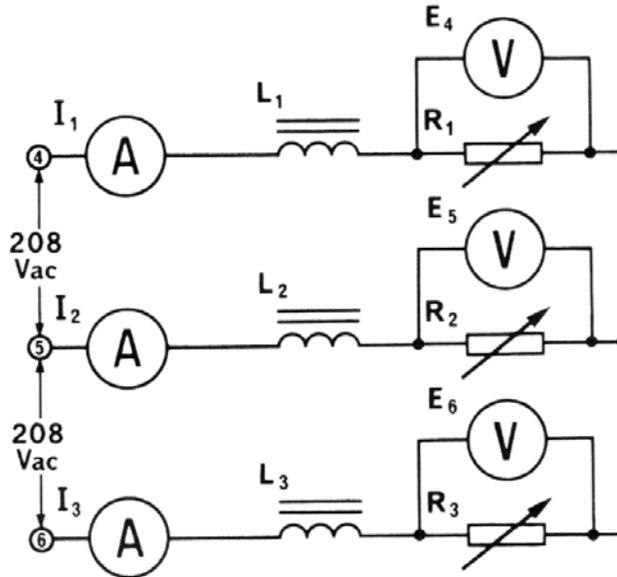

Figure 02-7
10) Reconnect voltmeters as shown in Figure 02-7